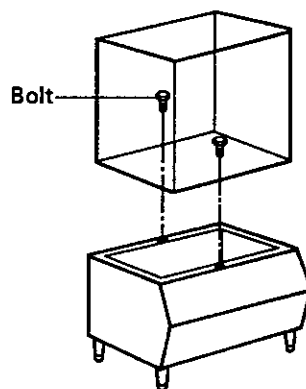

Fig. 2
- 4) Secure the icemaker to the Storage Bin, by using the two bolts provided. See Fig. 2.